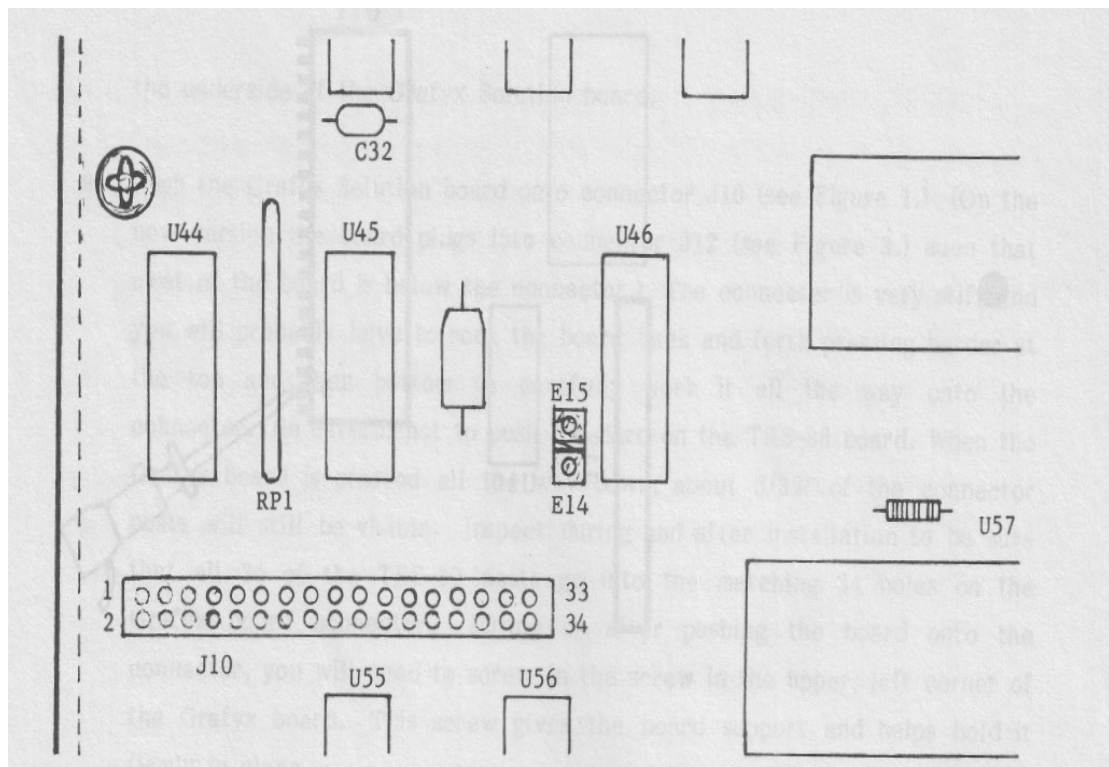
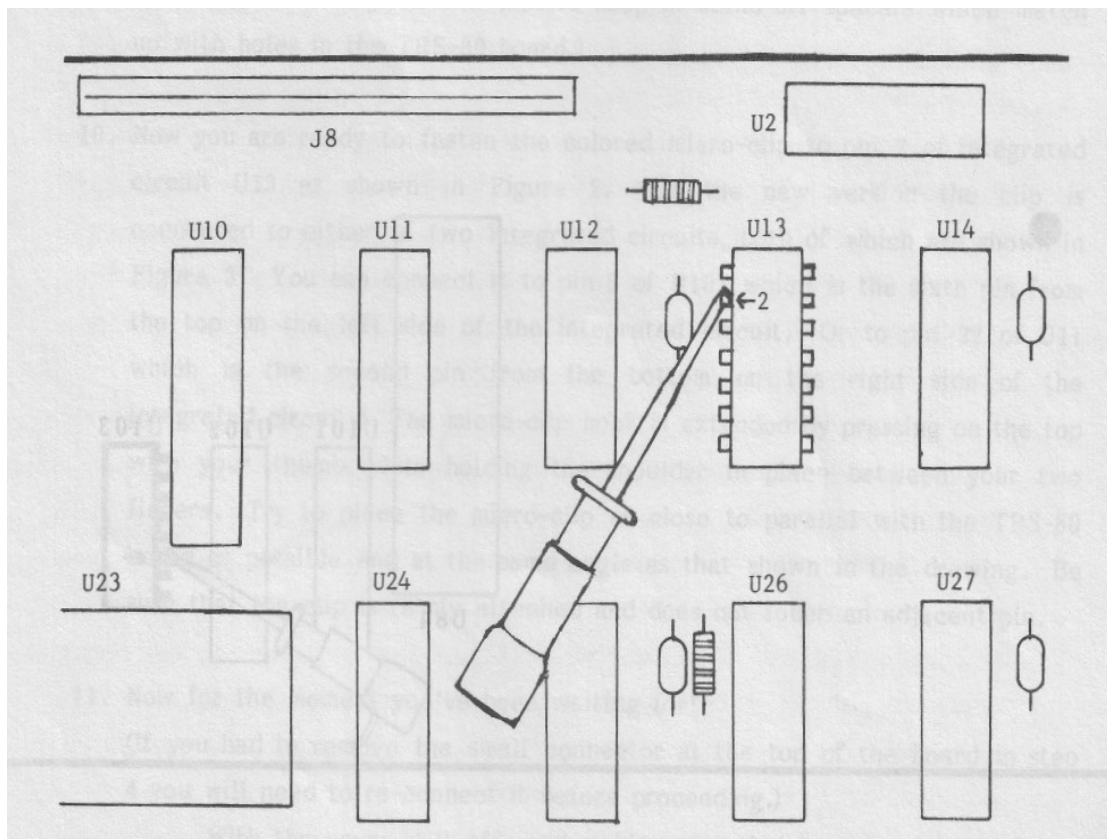
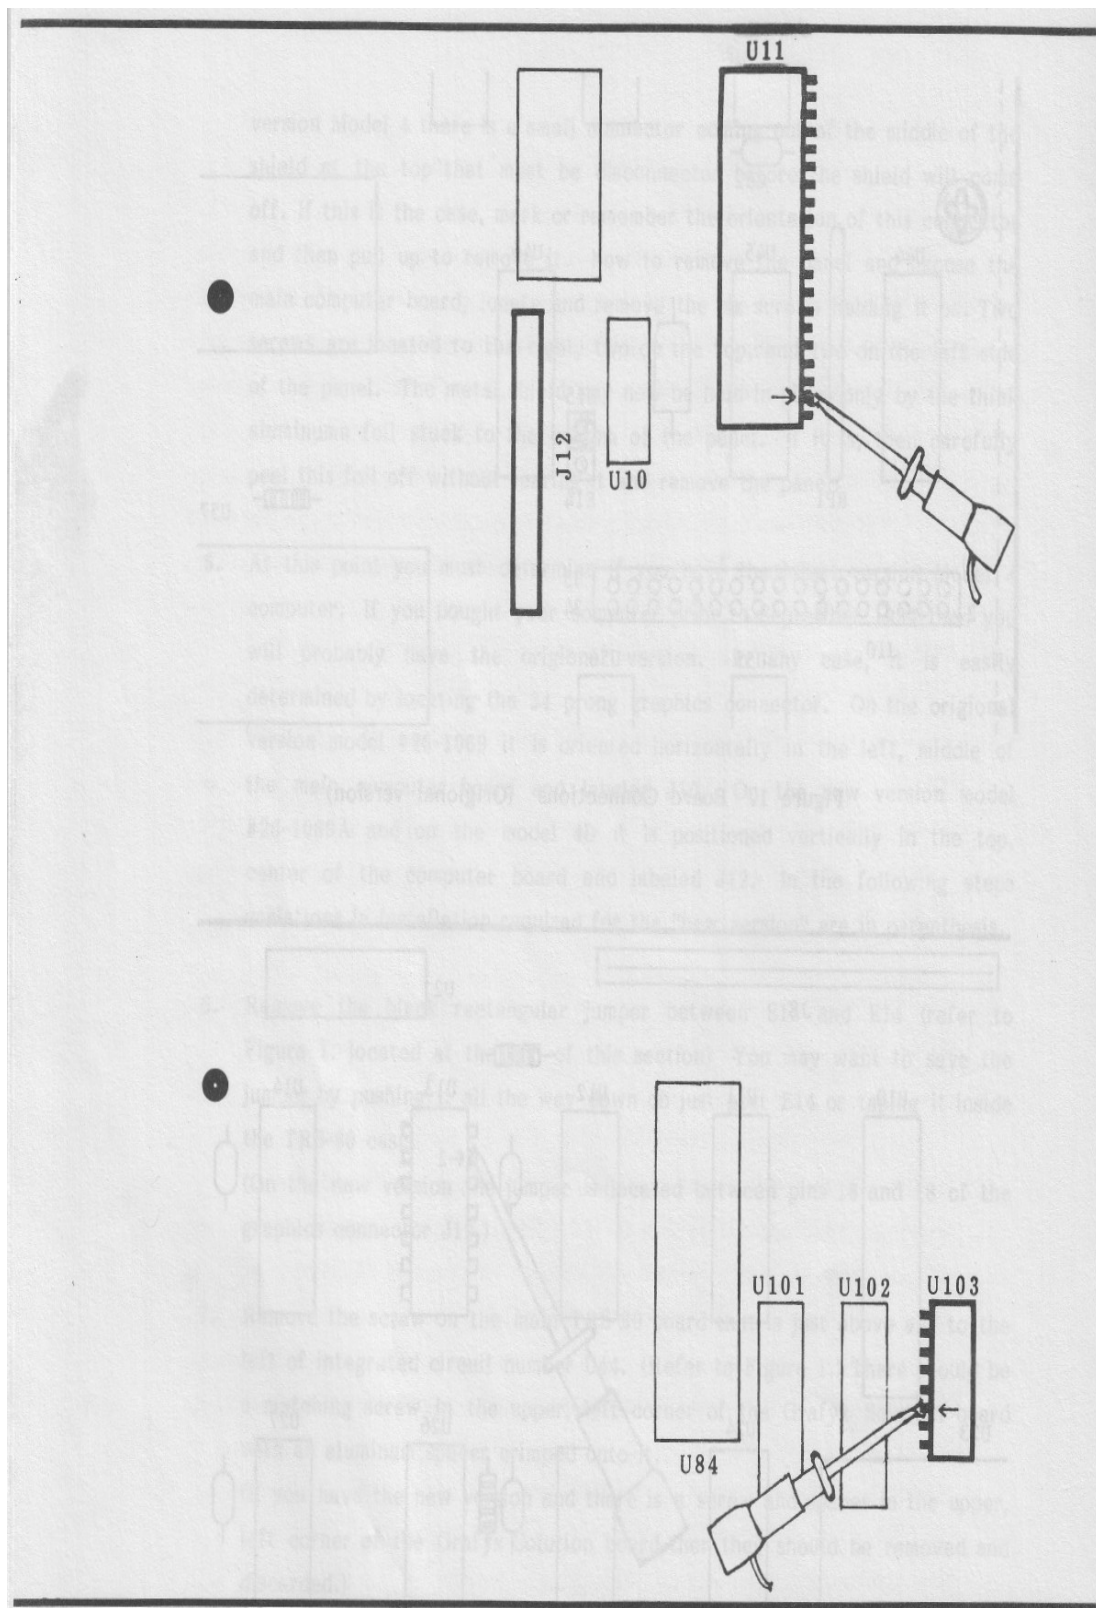

Figure 1. Board Connections (Original version)
Figure 2. Micro-Clip Connection (Original version)
Figure 3. Board Connections (New version)
6. Remove the black rectangular jumper between E15 and E14 (refer to Figure 1. located at the end of this section) You may want to save the jumper by pushing it all the way down on just post E14 or taping it inside the TRS-80 case.
7. Remove the screw on the main TRS-80 board that is just above and to the left of integrated circuit number U44. (Refer to Figure 1.) There should be a matching screw in the upper, left corner of the Grafyx Solution board with an aluminum spacer crimped onto it.
9. Push the Grafyx Solution board onto connector J10 (see Figure 1.) (On the new version the board plugs into connector J12 (see Figure 3.) such that most of the board is below the connector.) The connector is very stiff and you will probably have to rock the board back and forth pressing harder at the top and then bottom to carefully work it all the way onto the connector. Be careful not to push too hard on the TRS-80 board. When the Grafyx board is pressed all the way down, about 3/32" of the connector posts will still be visible. Inspect during and after installation to be sure that all 34 of the TRS-80 posts go into the matching 34 holes on the Grafyx board connector. During or after pushing the board onto the connector, you will need to screw in the screw in the upper, left corner of the Grafyx board. This screw gives the board support and helps hold it firmly in place.
10. Now you are ready to fasten the colored micro-clip to pin 2 of integrated circuit U13 as shown in Figure 2. (On the new version the clip is connected to either of two integrated circuits, both of which are shown in Figure 3. You can connect it to pin 6 of U103 which is the sixth pin from the top on the left side of the integrated circuit. Or to pin 22 of U11 which is the second pin from the bottom on the right side of the integrated circuit.) The micro-clip hook is extended by pressing on the top with your thumb while holding the shoulder in place between your two fingers. Try to place the micro-clip as close to parallel with the TRS-80 board as possible and at the same angle as that shown in the drawing. Be sure that the clip is firmly attached and does not touch an adjacent pin.